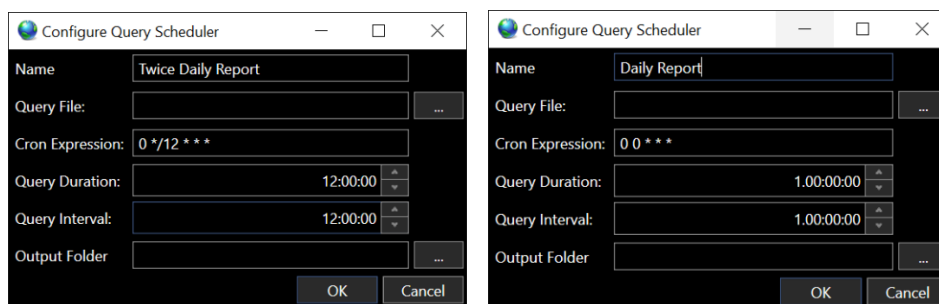

FIGURE 14-98 DATA RECORDING – QUERY SCHEDULER - QUERY SCHEDULE EXAMPLES
- **Query Interval:** The query interval describes the length of sub-queries. Over the course of a query duration, the query can be repeated multiple times, with each sub-query being the length of the query interval. See Figure 14-98
Figure 14-98 shows the CRON expression, Query Duration and Query Interval settings for a data query to be run every 12 hours (noon UTC and midnight UTC) for the past 12 hours (figure on left) and every 24 hours (at midnight UTC) for the previous 24 hours (figure on right).